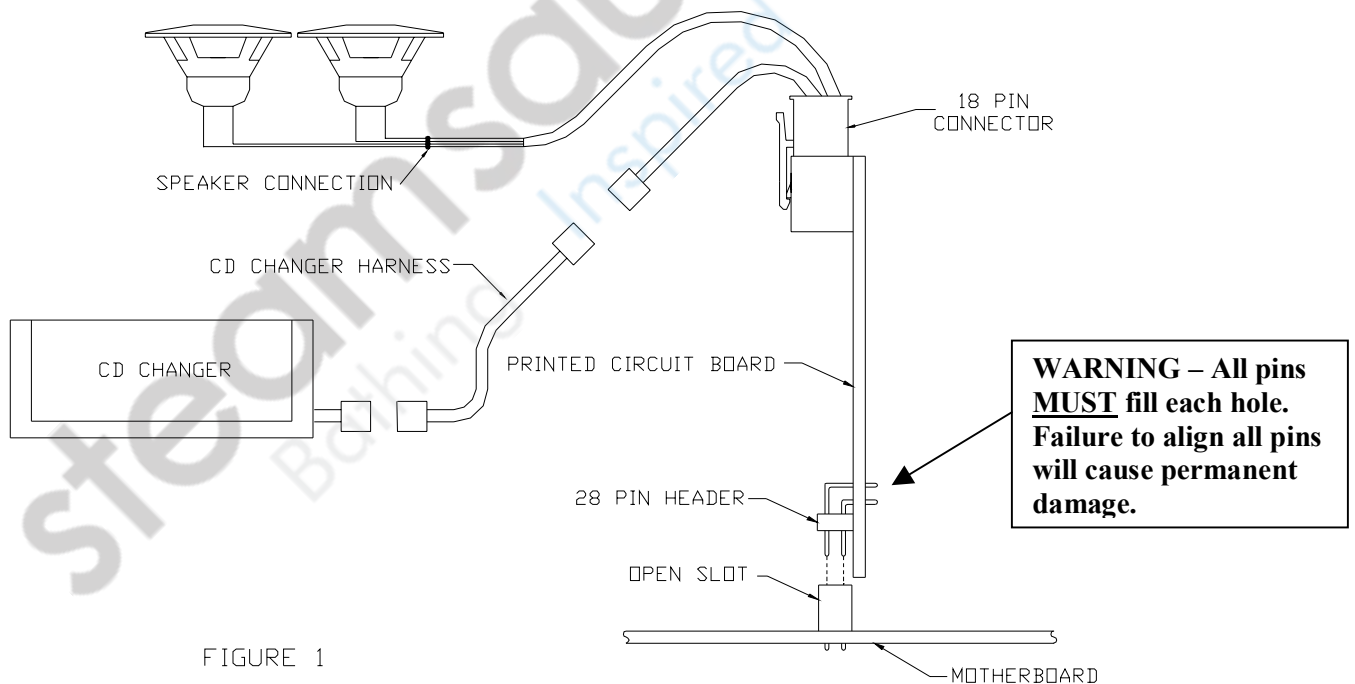

FIGURE 1
1. Make sure that all power to Command Module is turned off, remove cover of Command Module, and locate an open slot on motherboard. Run supplied wiring harness from CD changer to Command Module. Connect wiring harness to speaker printed circuit board before installing into Command Module. Being careful, gently insert card aligning with metal bracket located on the side of Command Module housing, make sure that all pins line up. **DO NOT FORCE**, (see figure 1).